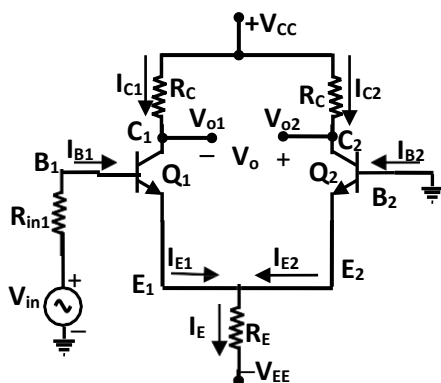

Figure 3.8: Single Input Balance Output
A) Single Input Balance Output Differential Amplifier: In this amplifier as shown in figure 3.8, input is applied to one of the base of transistor, say Q_1 and base of Q_2 is grounded. The output is measured between two collectors, which are at the same DC potential. Therefore the output is said to be balanced output.